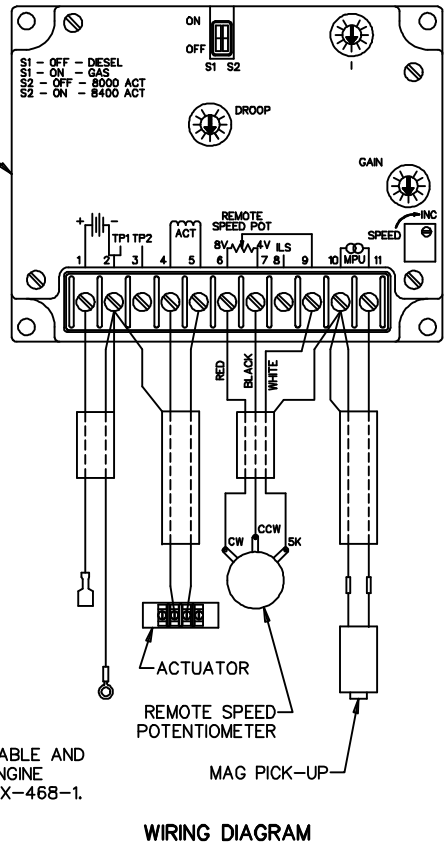

Figure 1. Remote Speed Potentiometer Installation.
2. Using hardware attached to the potentiometer, assemble potentiometer (273767) to controller rear panel. Run cable through the pre- -drilled hole. See Figure 1.
3. Run the cable along the back side and through the bottom of the controller box. Coil excess cable (leaving enough to reach to governor control unit) and connect to the engine harness with cable tie (X- -468- -1). See Figure 1.
4. Connect potentiometer cable to governor control unit as follows: (Refer to Figure 1)
5. Attach speed adjusting nameplate (X- -6133- -28) to rear panel of controller box using pan head screws (X- -49- -40), lock washers (X- -18- -4), and hex. nuts (X- -74- -6). See Figure 1.